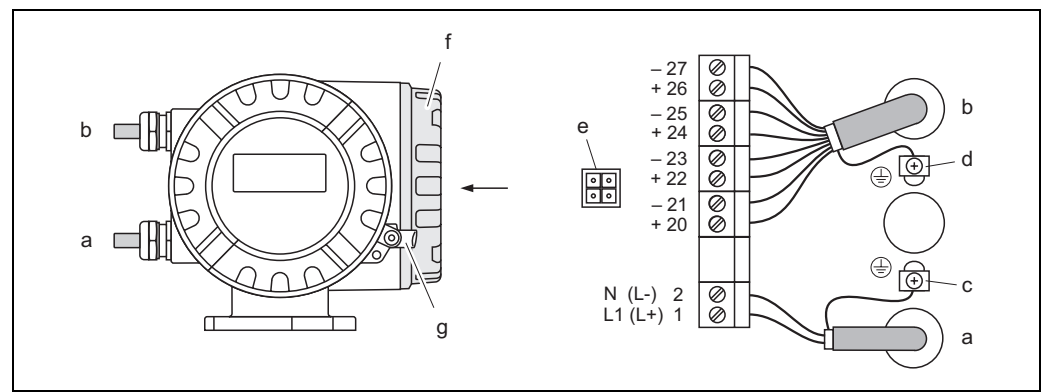

Fig. 35: Connecting the transmitter (aluminum field housing). Cable cross-section: max. 2.5 mm²
- Wiring diagram (aluminum housing) → Fig. 35